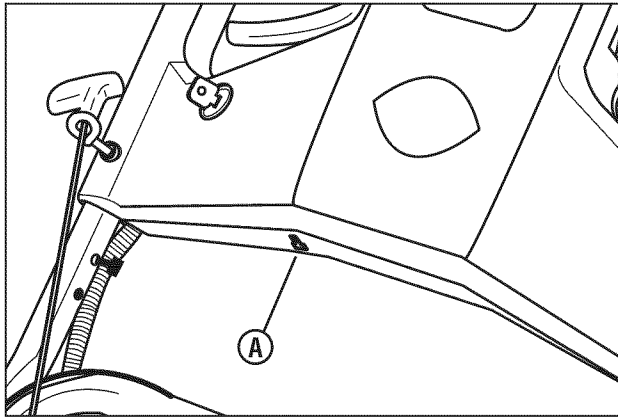

Figure 14: Battery charge port
1. Using the supplied charger, plug the charger connector into the battery charge port (**A, Figure 14**). Plug the charger into a wall outlet and charge the battery for 12-24 hours. (Longer periods will not damage the battery.)